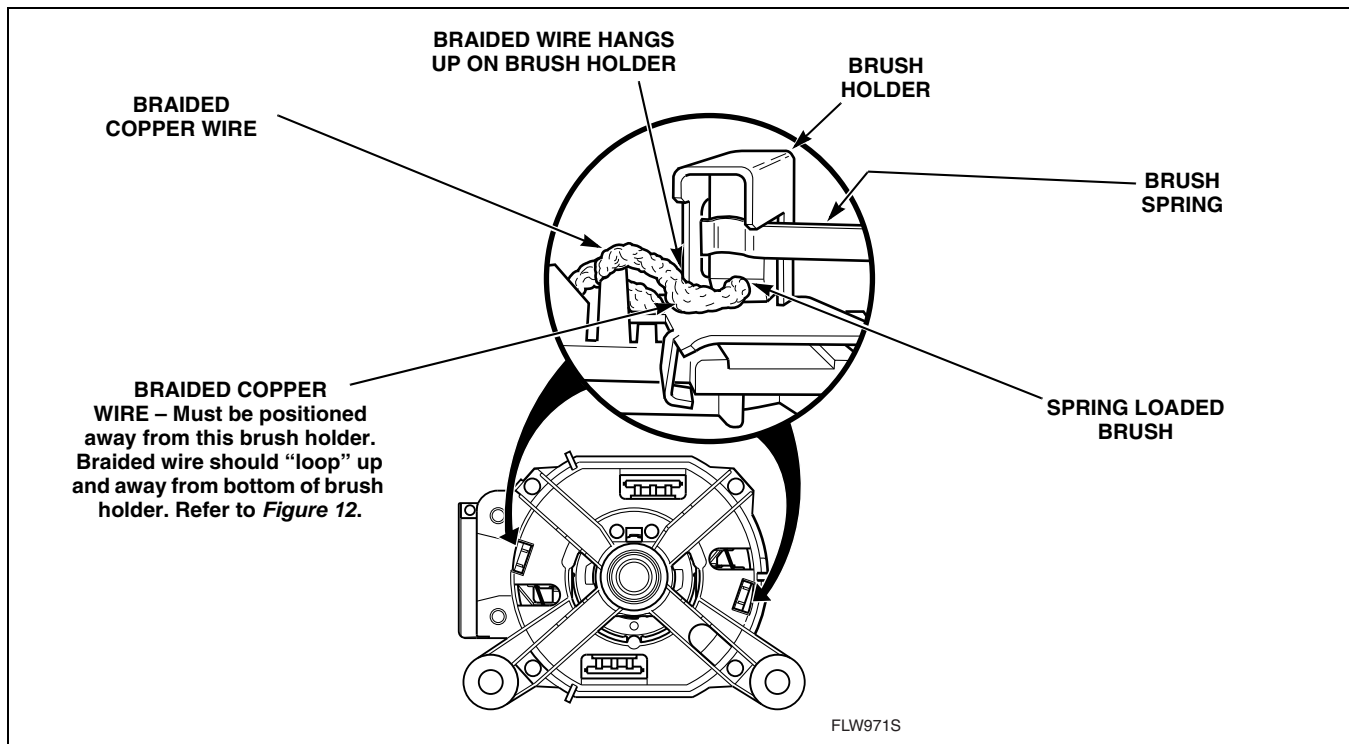

Figure 11
- Using a flashlight, view brushes through holes in motor end shield. Refer to *Figure 11*.
- Inspect both brushes to determine if either brush braided wire is binding the brush movement. The braided wire might be snagged on the seam in the corner of the metal brush holder. Refer to *Figure 11*.